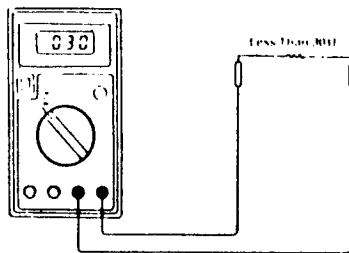

Fig. 5-7. Audible Continuity test
2. Set the FUNCTION switch to the $\rightarrow|$ range (same $\rightarrow|$ range) and connect the test leads across the resistance under measurement. See Fig. 5-7.